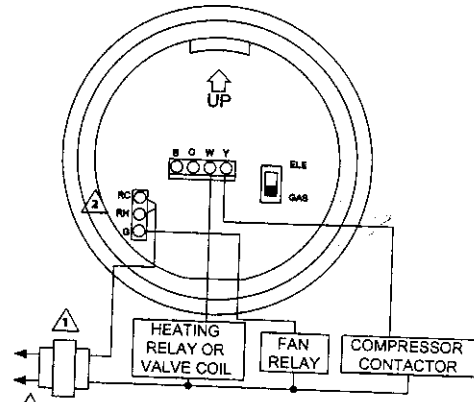

Fig 10. Typical hookup of ES100 in heat-cool system with single transformer.
- Fig. 10 - Heat-cool single transformer hookup